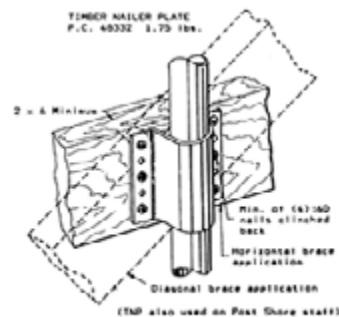

Fig. 26
The Timber Brace Nailer Plate (Fig. 26) permits the use of any width lumber (2" x 6" min.) to brace shore legs or post shore staffs of 2 3/8" O.D., providing a quick, friction connection. A minimum of four 16d nails (clinched over in back) per clip are required.
14. When the height-to-width ratio reaches 4:1, lateral bracing must be installed before proceeding any higher. Timber Nailer Platers and 2x6 minimum lumber (Fig. 26) is used for this purpose.